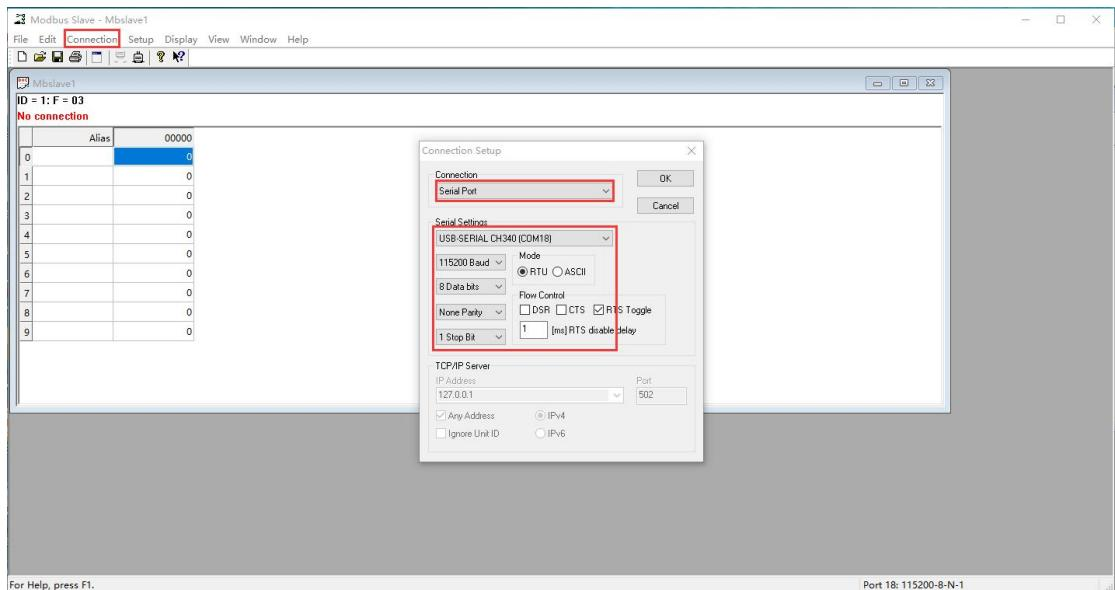

Figure 6-26 MODBUS \_ RTU parameter setting of slave software
- 6) Select RTU mode, and the serial port parameter setting is consistent with that of the equipment, as shown in Figure 6-26.